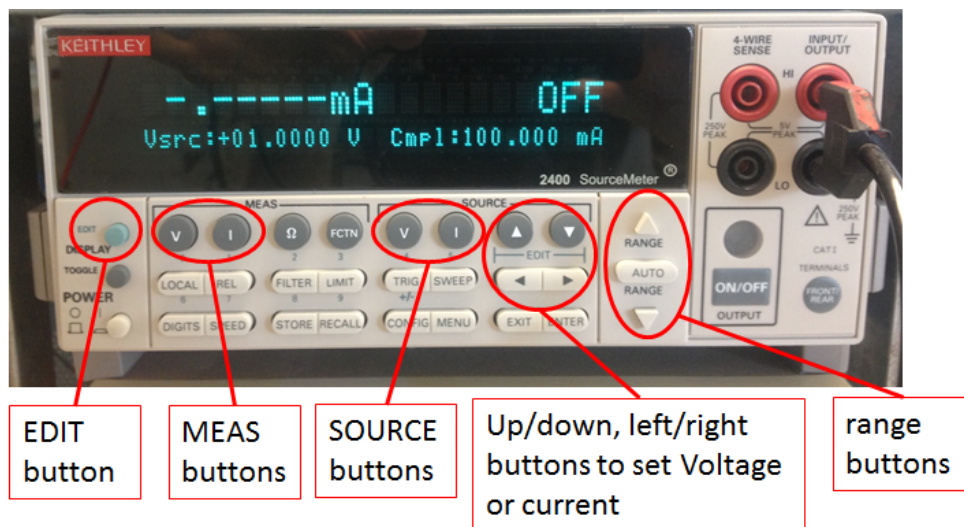

Fig. 2: critical buttons for using an SMU in manual mode
- (c) **Provide power to the circuit:** In order for the switch array to actually provide “1’s” and “0’s” it must have a DC power supply. This will be provided by one of the SMU’s on your bench, configured manually (see Fig. 2). Turn on SMU1. To configure it as a voltage supply, push the button marked “V” under “source”. To set the voltage push “edit” once and then use the left/right arrows to select the digit to change, and the up/down arrows to select the value. Configure for 1V. Push the “enter” button. Now, to set current compliance, push the “edit” button **twice**. You will need to push the up arrow under “range” three times to get the order of magnitude you need, then use the up/down, left/right “EDIT” to set the compliance to 100 mA. Attach the outputs to the VDC inputs on your board (red-to-red, black-to-black). This will provide the switch array with 0 V and 1V. In order to read back the amount of current being supplied, push the button marked “I” under “MEAS”. In order to configure SMU2 to manually read out the output voltage, turn on its power, and push “I” under Source, and check to be sure “Isrc” is 0 (this is the default). Now push “V” under “MEAS”. Connect SMU to the output of your circuit, black to the common node, red to the output node.